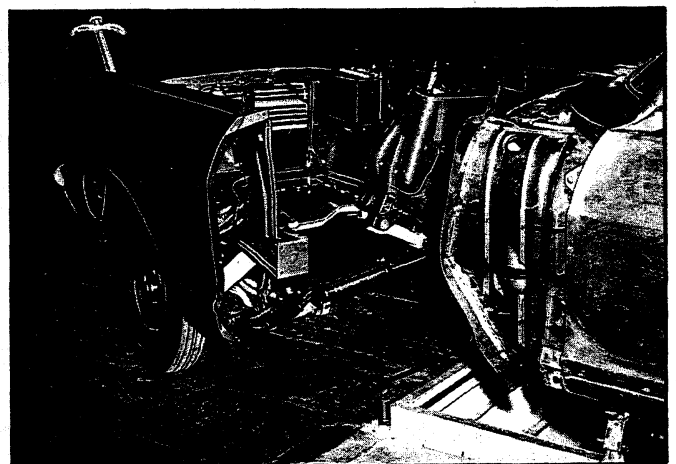

Fig. 31 - Removing Front End Assembly from Vehicle
The Chevy II front end body design allows for removal of the entire front end of the vehicle without disassembly of front suspension of sheet metal. One man may remove and transport the front end assembly using only a floor jack placed under the crossmember and the vehicle front wheels. Figure 31 illustrates the assembly in process of removal with jack stand in position under rocker panel. Proceed with removal as follows:
3. Raise car from floor and install jack stands as shown in Figure 31.
13. Remove front end from vehicle as shown in Figure 31.